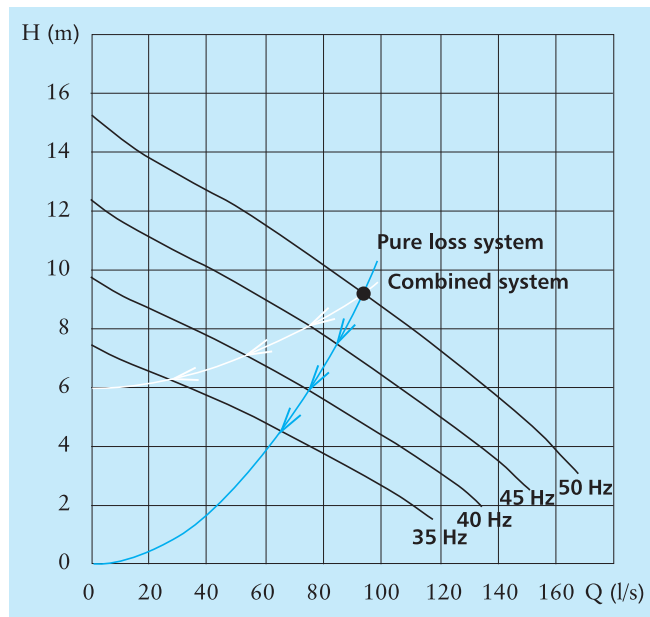
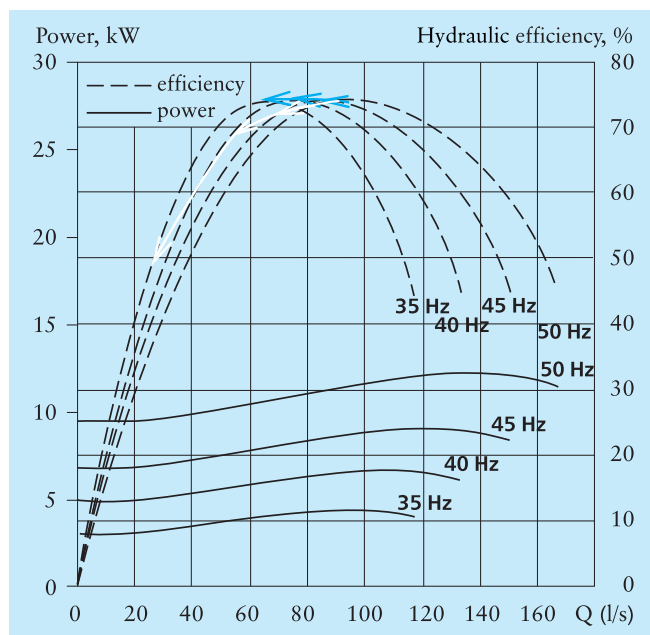

Fig 4. System duty-point movement for a lift system and a pure loss system.
Fig 5. System duty-point movement for a combined system and a pure loss system shown in an efficiency and power diagram.
The actual duty point is always the intersection between the pump curve and the system curve. The hydraulic (pump) efficiency in systems with a static head will change when the frequency is reduced. The system curve for a system with a static head does not coincide with the constant efficiency curves. The duty point will move along the pump curve, towards the left side of the pump and efficiency curves, (see fig 4 and fig 5).
- Flow decreases to 26 l/s, (see fig 4).
- Head is reduced to 6.4 m, (see fig 4).
- Shaft power drops to 3.4 kW (see fig 5).
- Hydraulic (pump) efficiency is not constant, dropping to 50 % (see fig 5).